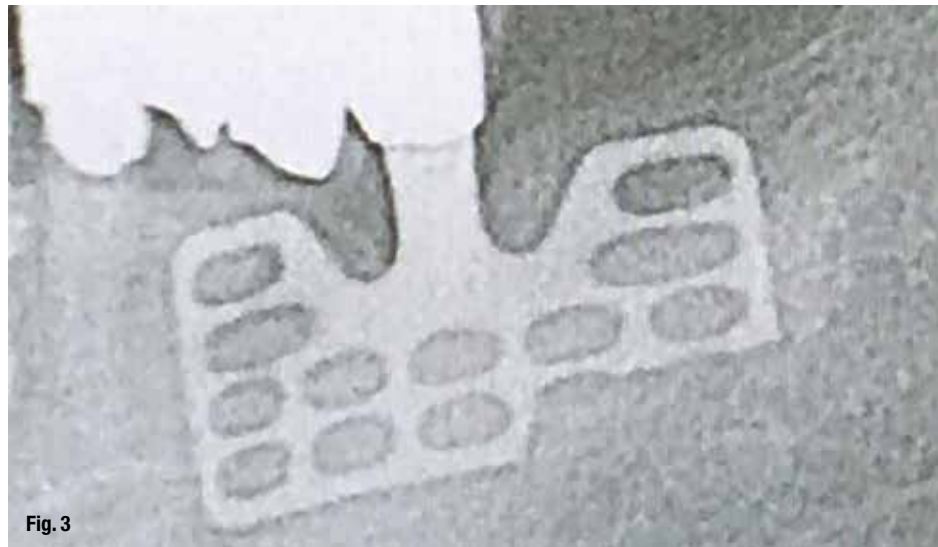

Fig. 3
- **JAH 2000 Blade Implant (Fig. 3):** I first placed an implant for this patient in 1988. It was the JAH 2000, which I designed as a flat, two-piece implant with wings. The blade implant was indicated for thin ridges where a root-form implant could not be placed without bone grafting. Blade implants were typically connected to other implants or teeth, and could be cut, shortened and shaped to align with the anatomy of the bone, which was commonly required when placing blade-form implants at the time. For this patient, two teeth anterior to the implant were prepared, an incision was made, a trough was drilled in the patient's very narrow ridge, the implant was placed and a five-unit bridge was delivered to replace three teeth in the posterior mandible. Notice that I adjusted the distal inferior portion of the implant so as not to impinge on the mandibular nerve.